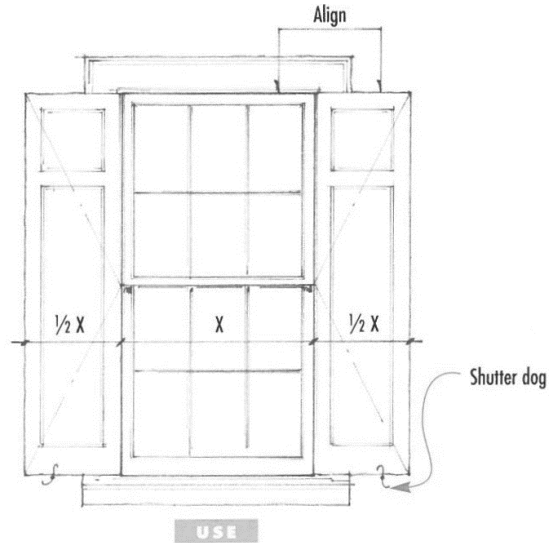

Figure 15: Shutter Sizing. Source: Marianne Cusato, *Get Your House Right* (Canada: Sterling, 2007), 110, fig. 5.36, 'Shutters to use'
- f. Shutters shall be sized and placed so as to equal the width that would be necessary to cover the window opening. Operable shutters are preferred (Figure 15).